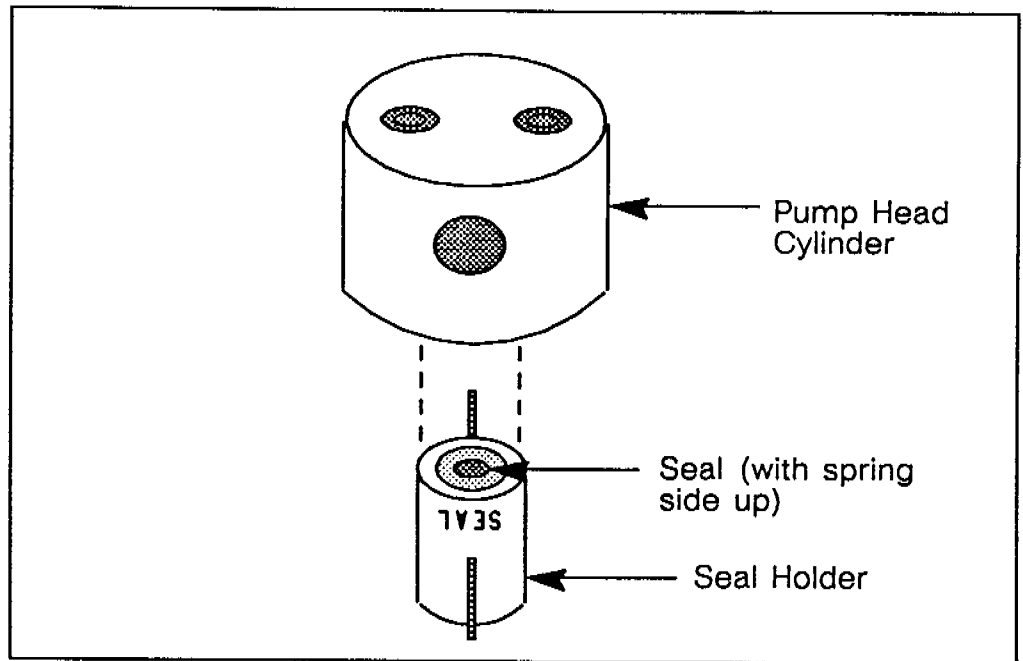

Fig. 5.8 Seal Installation
1. Place the seal holder on end on a clean, flat surface with the "SEAL" marking up. Install the piston seal (spring side up) into the seal holder (Fig. 5.8). Use the pump head to press the seal into the seal holder.